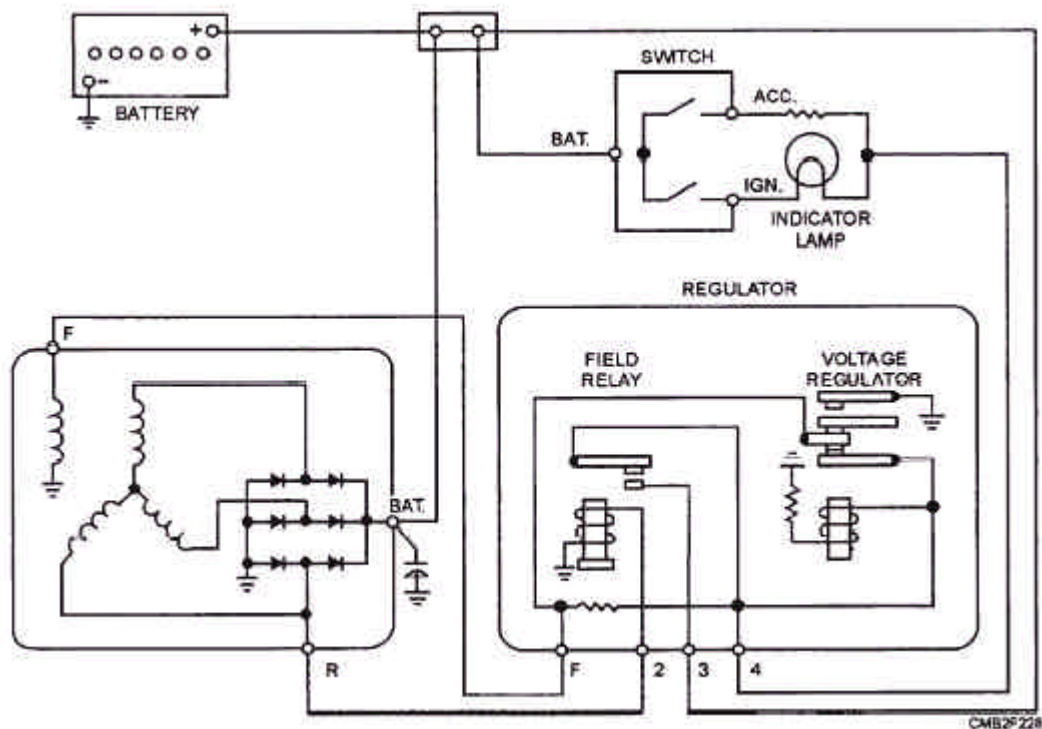

Figure 2-76.- No-charge indicator schematic.
2. NO-CHARGE INDICATOR (fig. 2-76) is set up to indicate whenever the alternator is not producing current.